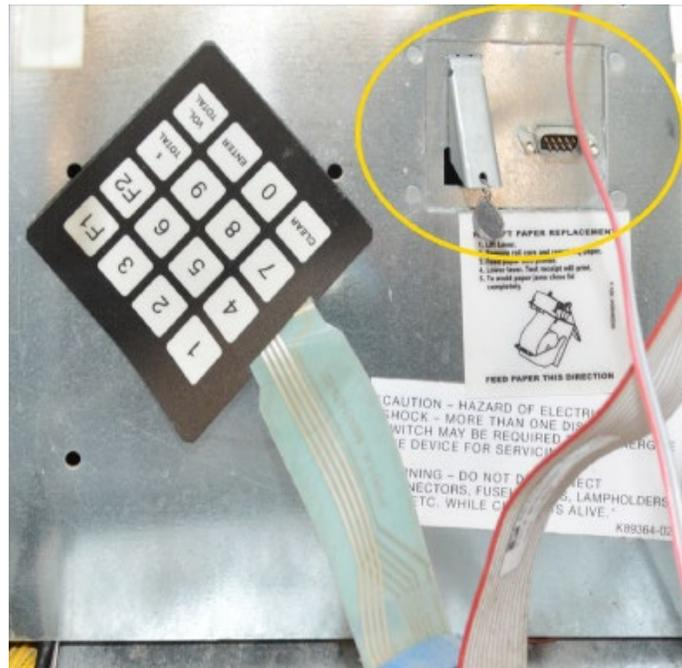

Figure 174
- a) Open both sides of the dispenser and Identify the Weights and Measures Switch. This is identified by the metal bracket closed by a sealed wire. The side with this switch is Side A. See Figure 174